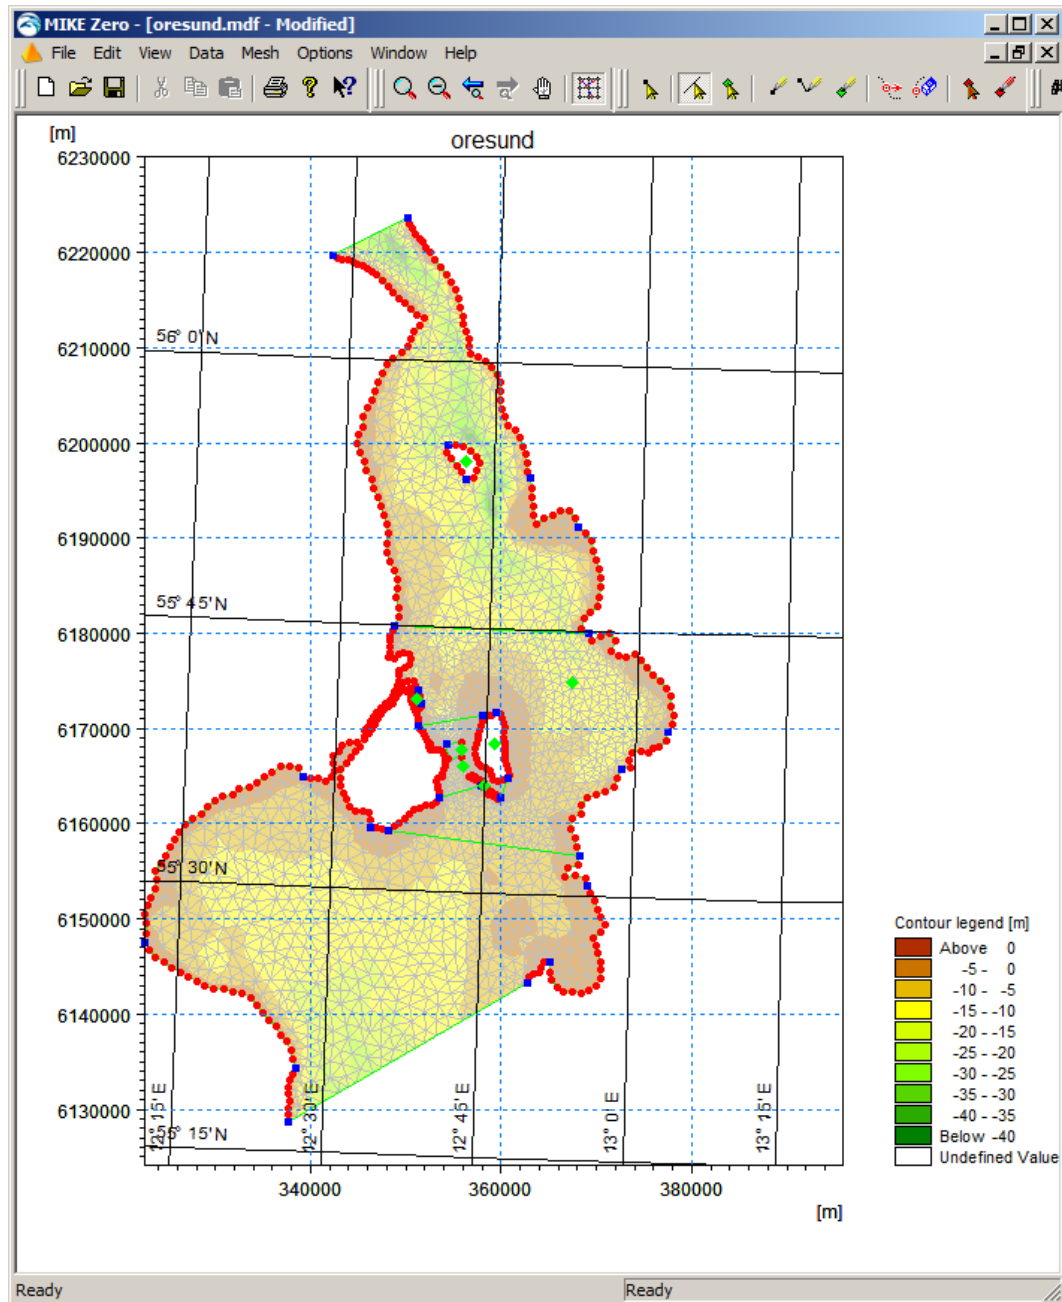

Figure 2.15 The mesh as it appears in the Mesh Generator after interpolating water depth xyz data into the mesh
**Please note** that the water depths are different in the MIKE 21 FM example and the MIKE 3 FM example, because they cover two different years, so the morphology has changed. The resulting mdf-file for the MIKE 21 bathymetry for 1993 will look as in Figure 2.15.